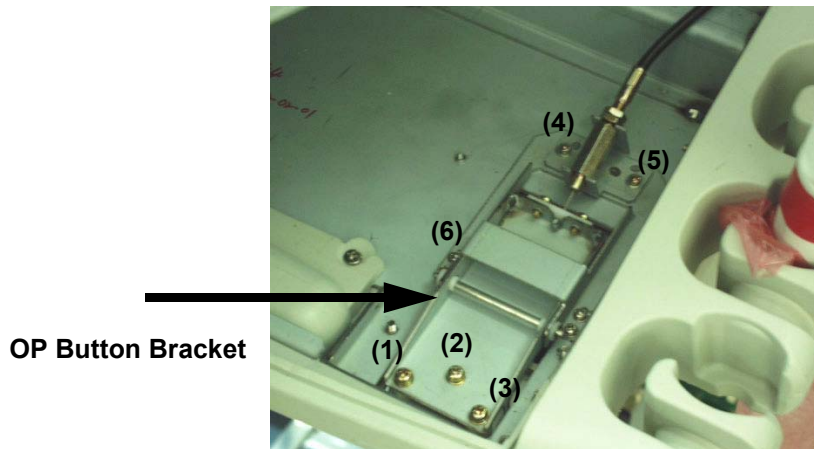

Figure 8-105 Unscrew 6 screws to remove BRKT
- 3.) Unscrew two (3) screws (4-6) to remove the OP button bracket. Refer to Figure 8-105 on page 8-57 .